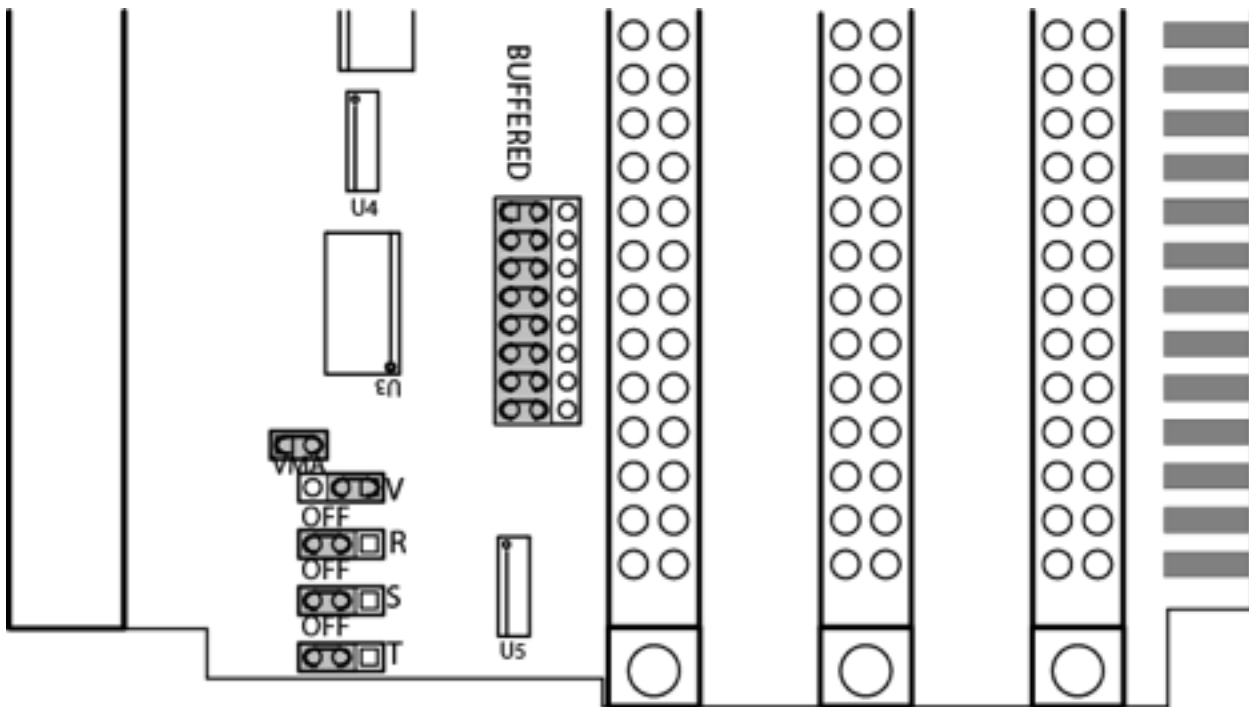

Figure 10
For testing the FRAM Board the Apple 1 or Clone must have the VMA mod performed meaning that the short on the Apple 1 labeled "6502" near the 3 3K resistors and near pin 1 of the 40 pin socket at A7 should be removed and replaced by a 100pf Capacitor and 2200Ω resistor across the terminals with surface mount parts or between pins 5 and 8 of the 6502 at location A7 or pins 12 and 14 of the DIP at location B1. The FRAM board can be plugged onto the PC board connector of the Apple 1 or can be plugged into an expansion slot of a known good Expansion Board configured as shown in Figure 10. An Apple 1 ACI Board should be installed in the PC Socket on the Apple 1. The Apple 1 memory is assumed to be mapped into the \$0XXX and \$EXXX space, if the board has been modified for 16K chips then the modification must be made using the CS(N) pins for enabling the memory and not the Address lines directly, otherwise the VMA will not disable the on-board expanded memory.